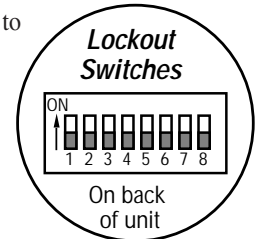

Figure 7
1. Locate the lockout switches on back of the unit (see **Figure 7**).